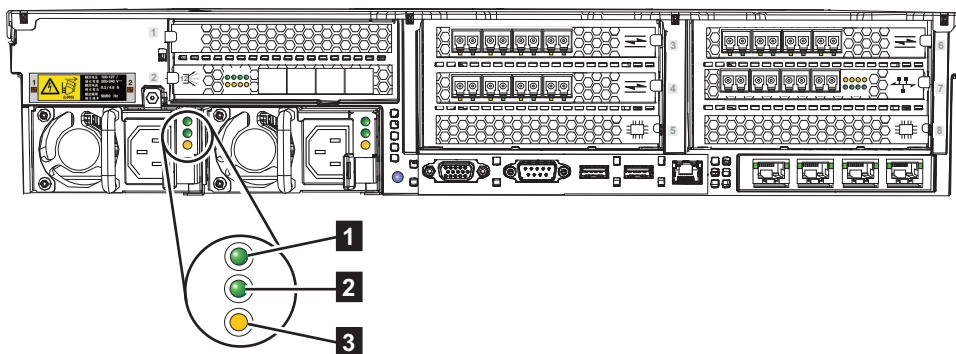

Figure 201. 2145-SV1 AC, DC, and power-error LEDs
5. Verify that the AC power LED (**1**) and the DC power LED (**2**) are lit. Each power supply has a set of indicator LEDs, as shown in Figure 201. In this example, the figure shows the LED indicators for power supply 1.